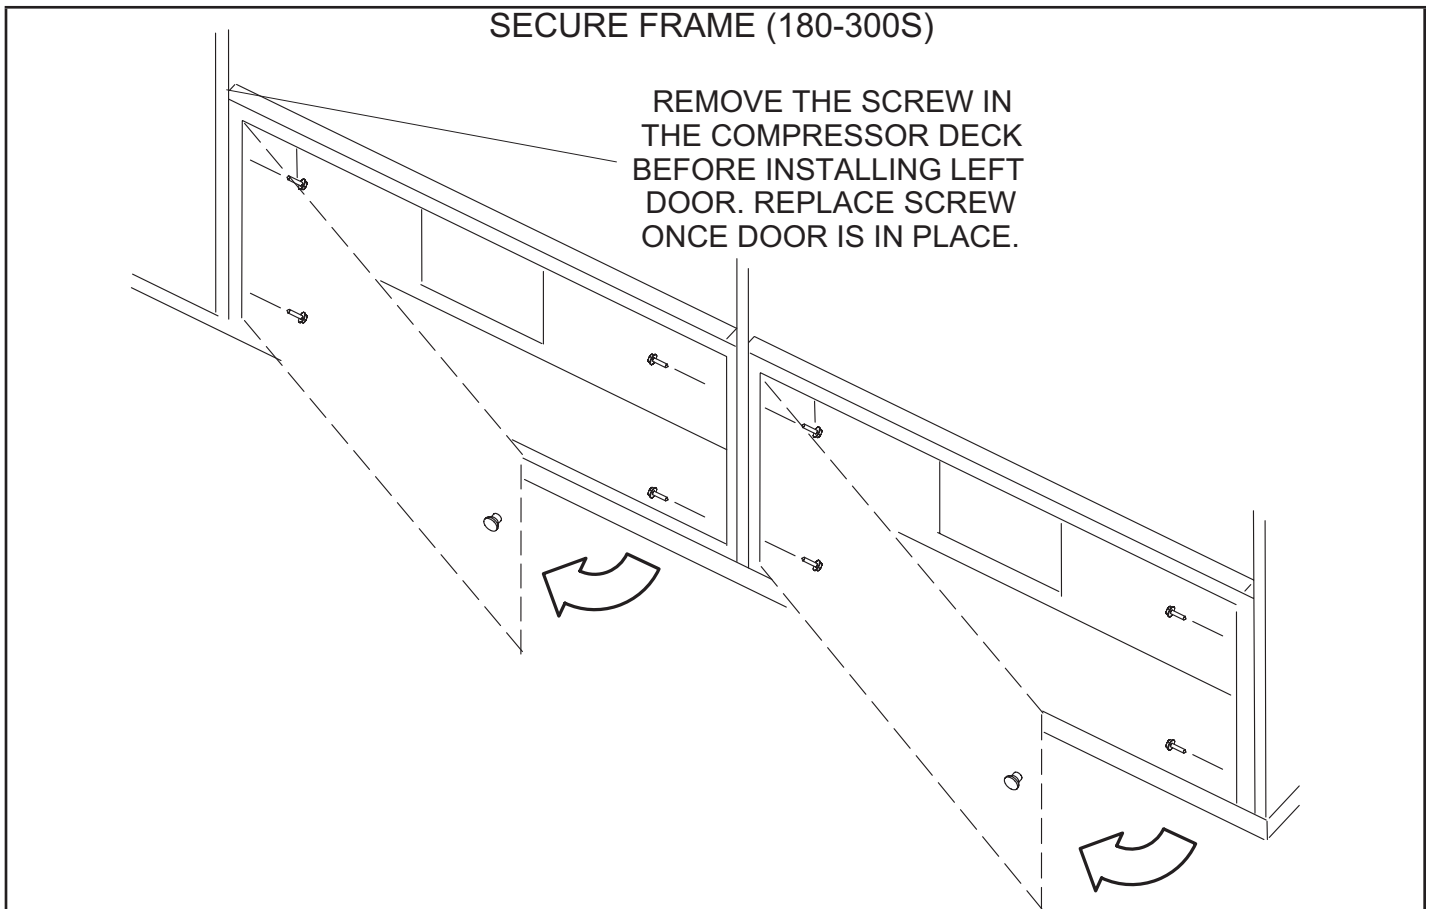

FIGURE 10
- 3 - Remove the screw installed in the upper left corner of the left electric heat section. Position electric heat door assemblies in the electric heat openings as shown in FIGURE 10. Make sure the doors open in the directions indicated.
- 4 - Secure each door from the inside of the compartment as shown in FIGURE 10. Secure with #10 sheet metal screws provided. Replace the screw which was removed in the previous step.